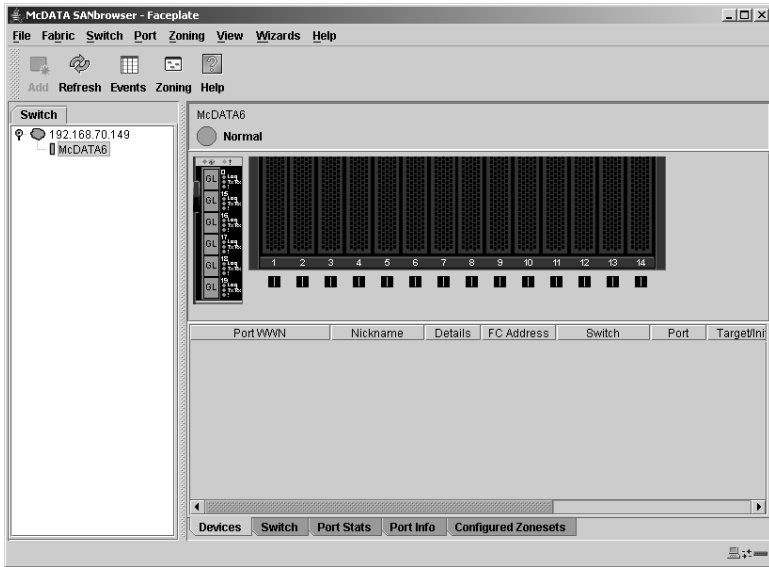

Figure 28. McDATA SANbrowser Faceplate window
- Click the switch labeled **McDATA 6**. The McDATA SANbrowser Faceplate window opens, as shown in Figure 28.